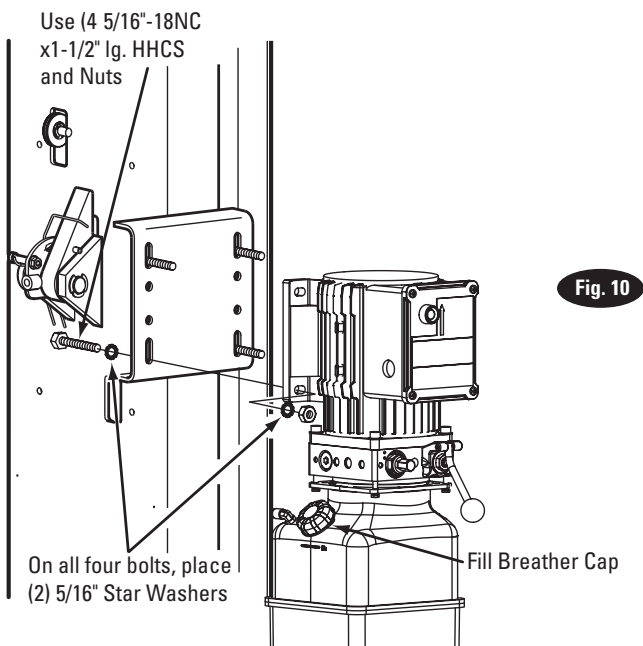

Fig. 10
**15. Oil Filling & Bleeding:** Use Dexron III ATF, or Hydraulic Fluid that meets ISO 32 specifications. Remove fill-breather cap, Fig. 10. Pour in (8) quarts of fluid. Start unit, raise lift to full rise several times until lift operates smoothly.